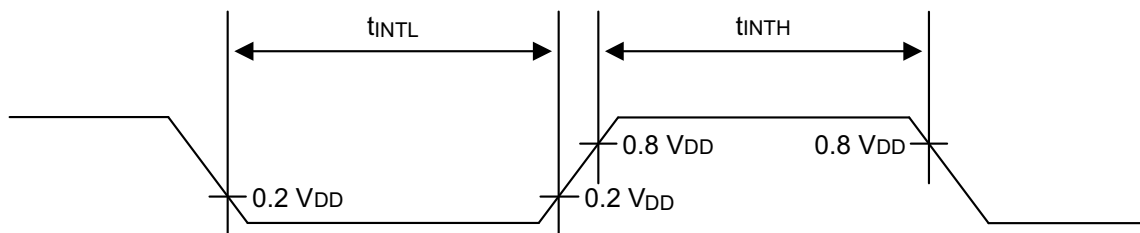

Figure 95. Input Timing for External Interrupts, Ports 0 and 2
- Input Timing for External Interrupts – see Figure 95 on page 304